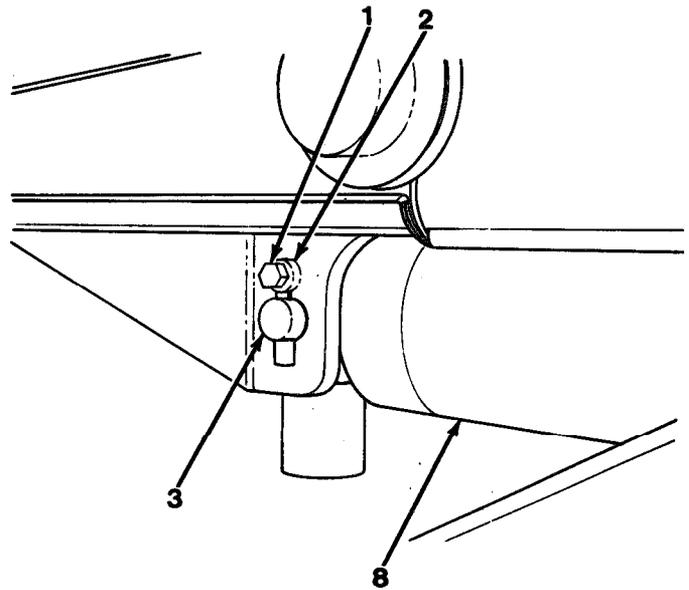

Figure 13-1
3. Secure boom hoist cylinder (8) in lifting device. Remove capscrew and lockwasher (1), rod (2) and pin (3) from rod end of boom hoist cylinder (8, Figure 13-1).
4. Retract boom hoist cylinder (8) rod by pushing boom hoist lever and retracting boom hoist cylinder (8) approximately 6 in. (152 mm). Shut engine off.